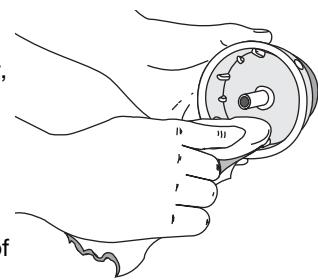

Fig. 16
4. Use a clean cloth to clean the inner reel, spring, shaft and inner surface of the outer spool (Fig. 16).